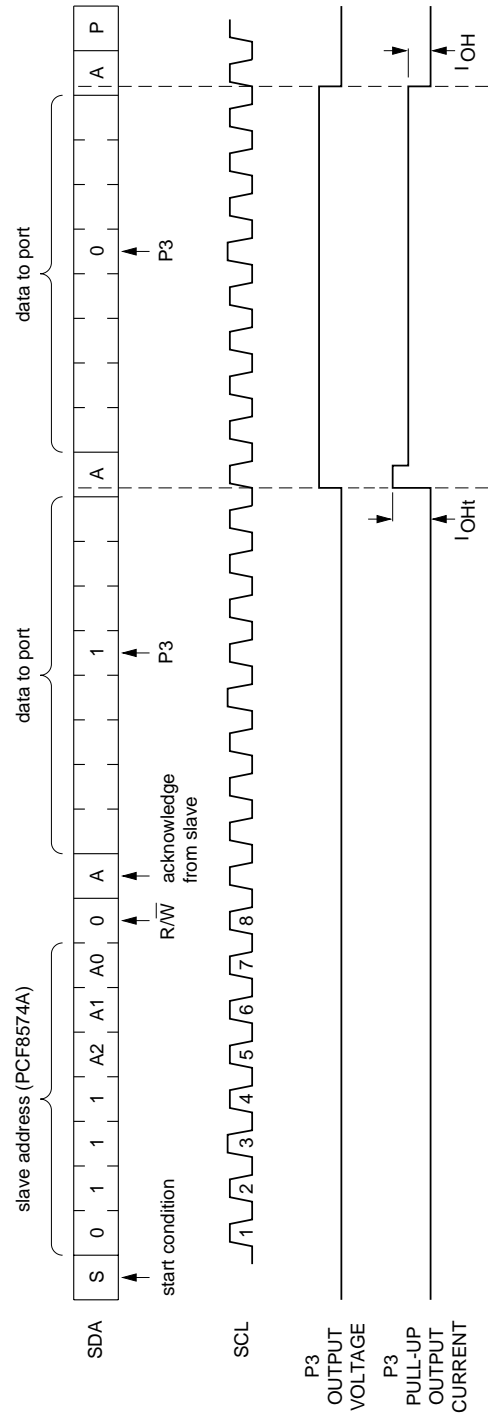

Fig.14 Transient pull-up current  $I_{OHt}$  while P3 changes from LOW-to-HIGH and back to LOW.
**Quasi-bidirectional I/Os** (see Fig.14)